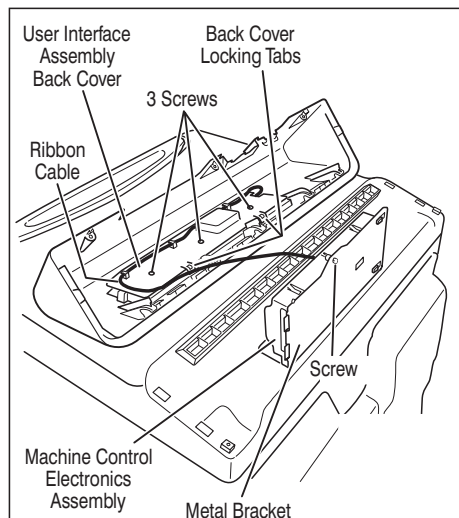

Figure 15. Locate the electronic assemblies.
There are two electronic assemblies: the machine control electronics and the user interface electronics. See figures 15 and 16.
4. Remove the one screw holding the machine control assembly to the metal bracket. See figure 15.
3. Remove the wire connections from the user interface assembly, including the P5 ribbon cable. See figure 15.
5. The user interface assembly is held to the console insert panel by three screws and two locking tabs. After the screws are removed, lift each of the locking tabs to remove the back cover of the user interface assembly. See figure 15.